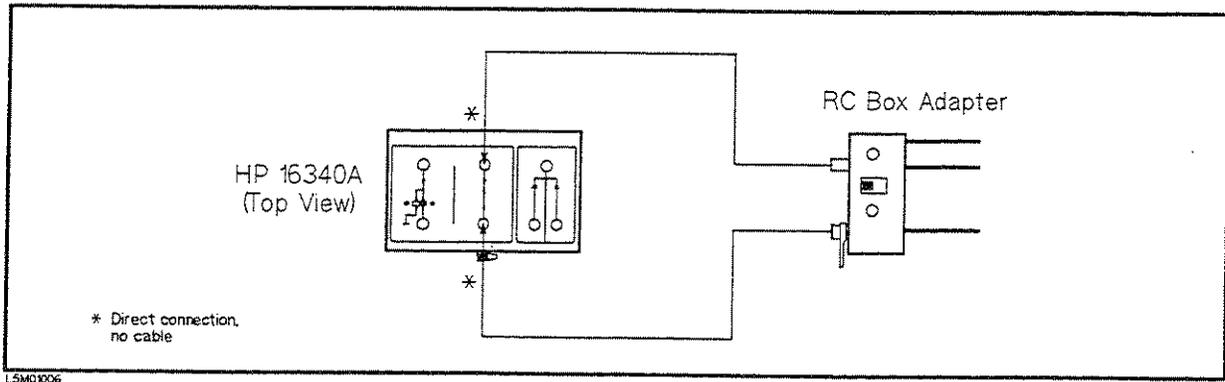

Figure 9-3. RC Box Connection
- Connect the RC Box to the RC Box adapter as shown in Figure 9-3.